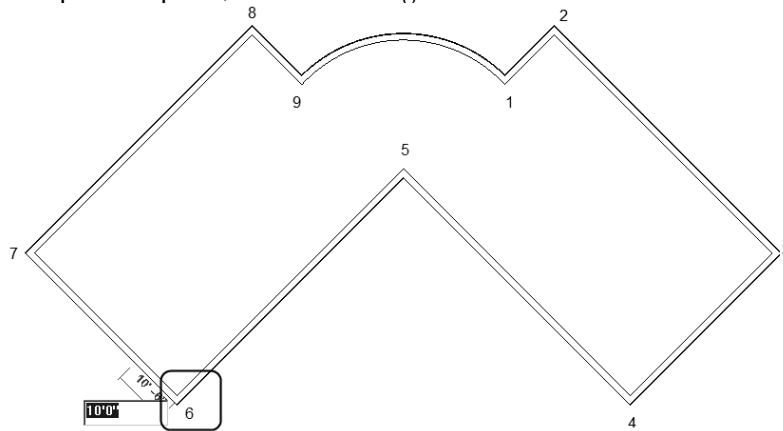

Figure 3-65 Specifying the start point of the first interior wall
- g. Sketch the interior walls based on the given parameters, refer to Figures 3-65 through 3-71.
- Move the cursor close to the lower left corner, marked as 6, refer to Figure 3-65, and traverse upward along the centerline of extreme left wall of the building profile. When the temporary dimension appears, enter the value 10'0" and press ENTER to start the interior wall profile from the specified point, as shown in Figure 3-65.